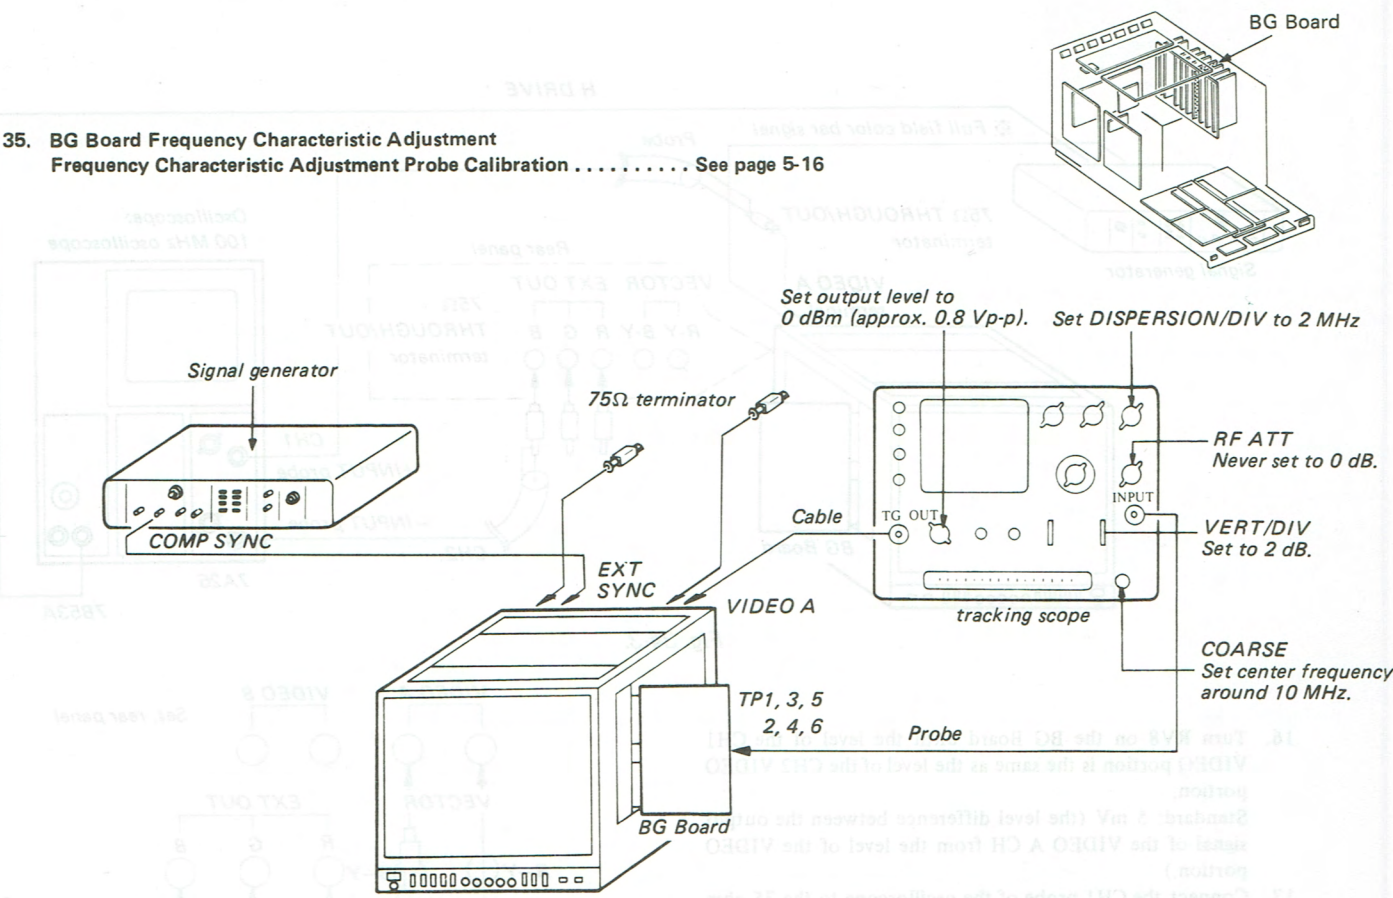

Fig. 35-1.
1. Connect as shown in Fig. 35-1.